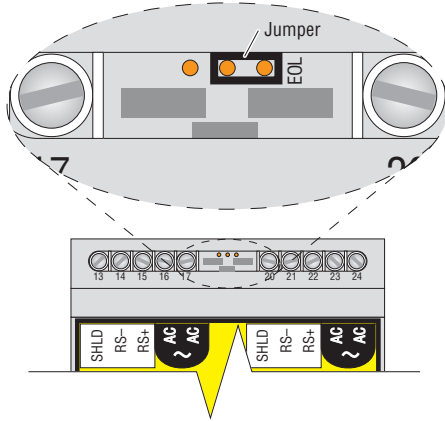

Figure 5a. End of Line Jumper for last TTSIM
- On the last TTSIM in the circuit, place the jumper as shown in Figure 5a.